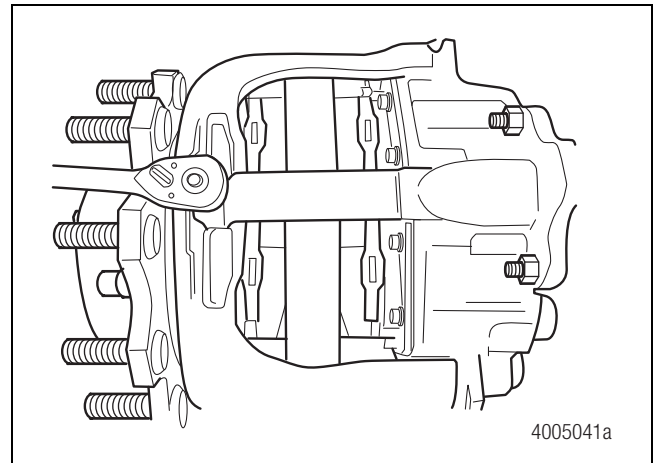

Figure 5.8
1. Use a 17 mm wrench to remove the pad retainer bolt. Remove the pad retainer. Figure 5.8.